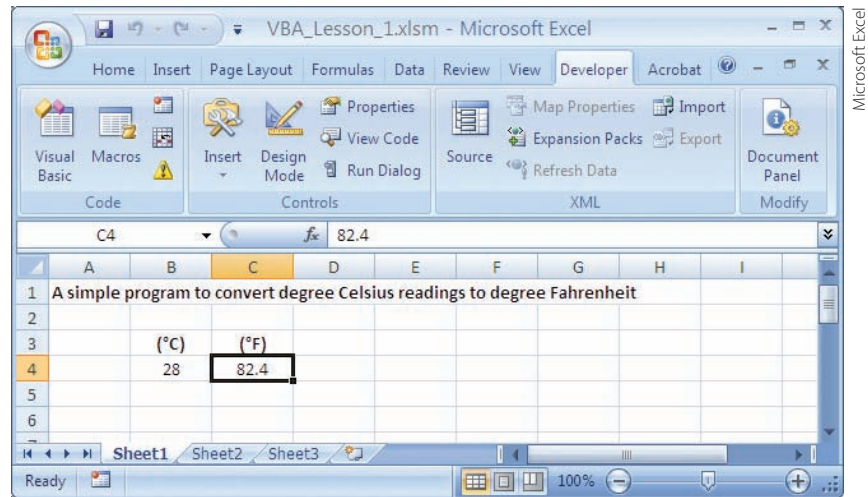

FIGURE 14.48
- To run the code, click on **Run** and then **Run Sub/UserForm**. You will then see the result in Sheet1, as shown in Figure 14.48.